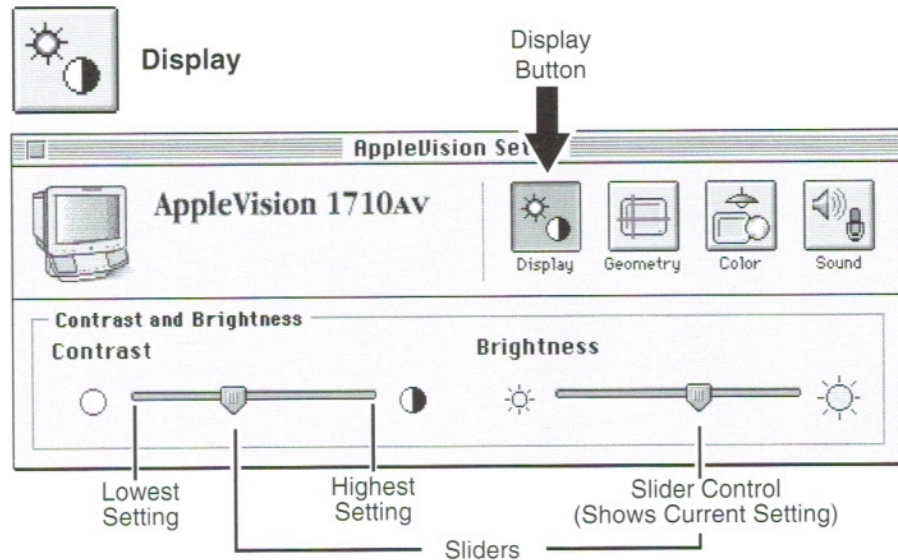

Figure 23. AppleVision Setup Control Panel Display Button
2. Click the Display button (see Figure 23).